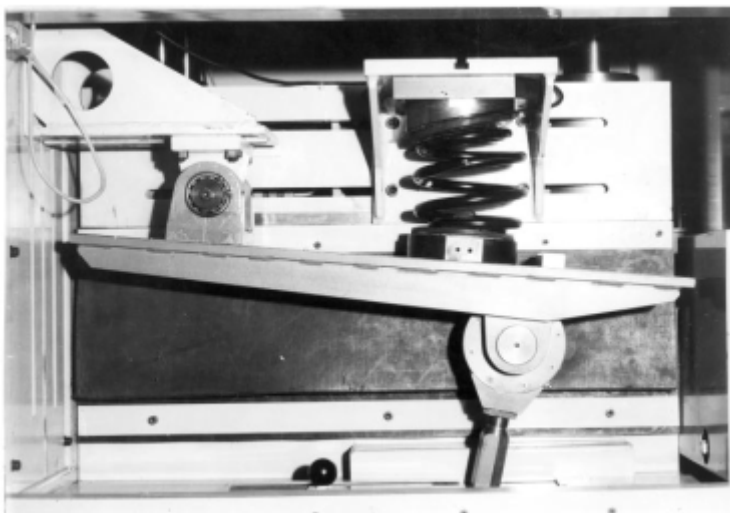

Figure 2: Circular Deflection Setup
3.1.3.2 Circular deflection. This is the setup of a circular deflection configuration with original spring seats and insulators. See Figure 2.